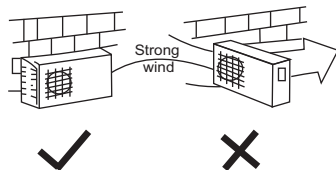

Fig.17
- In the case that the installation place is exposed to strong wind such as a seaside, make sure the fan operating properly by putting the unit lengthwise along the wall or using a dust or shield plates, Fig. 17.